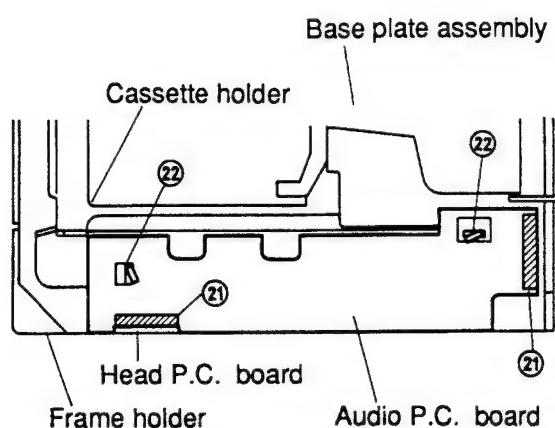

Figure 16
- (1) Remove two solders ㉑ and remove the parallel wire (7P) and the head PC board as shown in Figure 16.
- (2) Adjust the two claws ㉒ to the rectangular holes on the PC board and remove the PC board as shown in Figure 16.
- (3) After replacement, mount the new PC board following the removal steps in the reverse order.